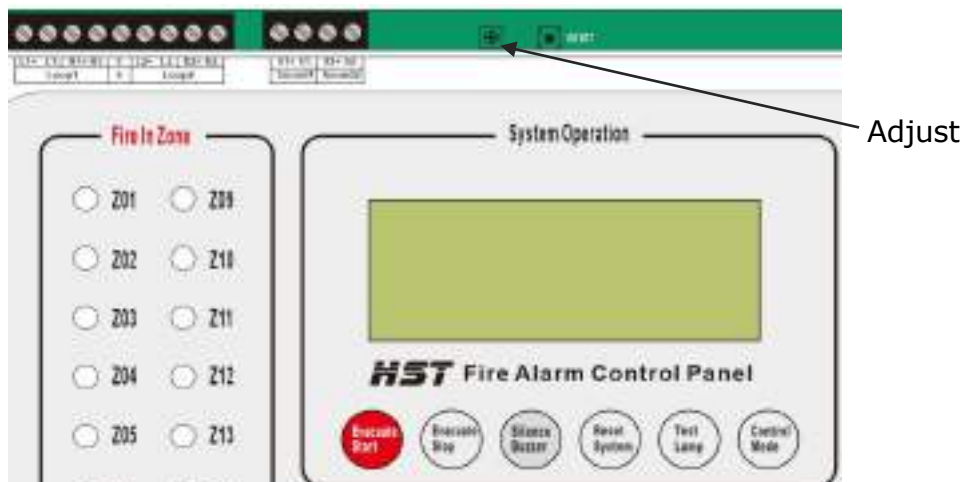

Figure 12. Adjust LCD Contrast
(2) .When the LCD display is not clear enough, a small screwdriver can be used to adjust the LCD contrast. Insert a small screwdriver into the hole of the LCD Adjust and rotate clockwise or counterclockwise until the appropriate display contrast is adjusted. Refer to Figure 12.